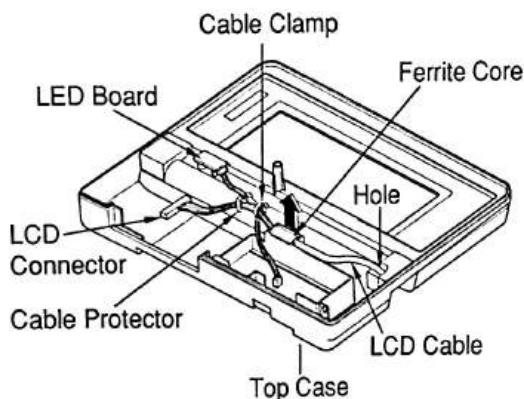
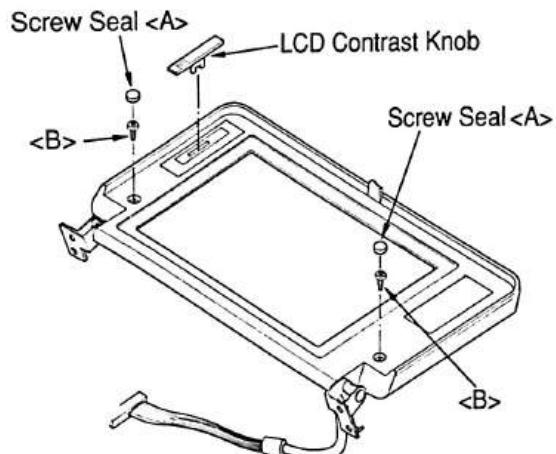

Figure 18
Figure 19
- (1) Turn over the display panel and the top case, and remove the cable clamp by cutting with a diagonal cutter as shown in Figure 18.
- (2) Take out the LED (CHARGE/LOW BATTERY) cable from the cable protector and remove the ferrite core from its compartment by gently pulling up the LCD cable as shown in Figure 18.
- (3) Remove the LCD cable from the hole opening next to the right hinge of the top case.
- (4) Gently lift up the LCD contrast knob by holding both ends as shown in Figure 19.
- (5) Gently remove two screw seals <A> on both sides by using a sort of ice pick and remove two screws  ( $3\varnothing \times 8$ ) as shown in Figure 19.